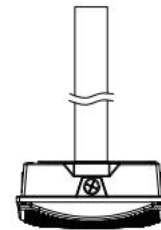

Figure 2
Step 2. Screw the fixture to the 3/4"NPT Stem(Figure 2).